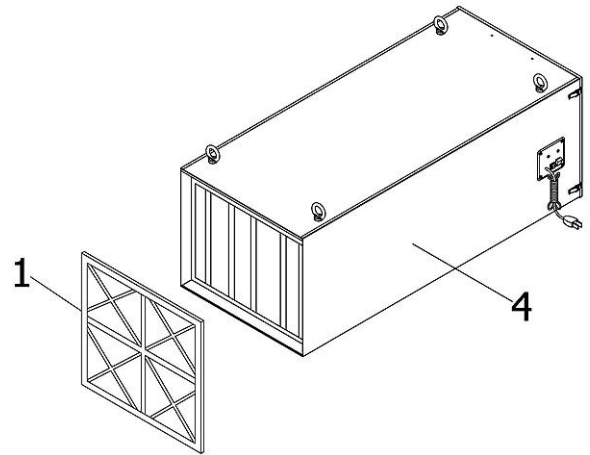

Fig.3
3. Installed the Outer Pre-Filter (NO.1) into the cabinet (NO.4). See FIG.3